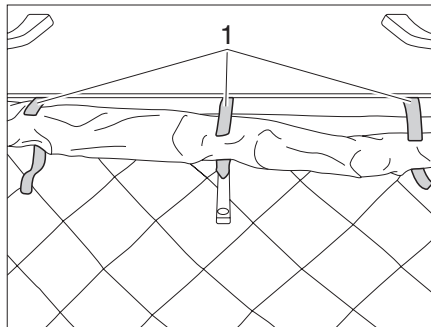

Fig. 32 Opening the Velcro fasteners
- ▶ Open the three Velcro fasteners (Fig. 32,1) of the cloth bellows.
- ▶ Carefully roll up the cloth bellows near the lock and fix it with three Velcro fasteners (Fig. 32,1).